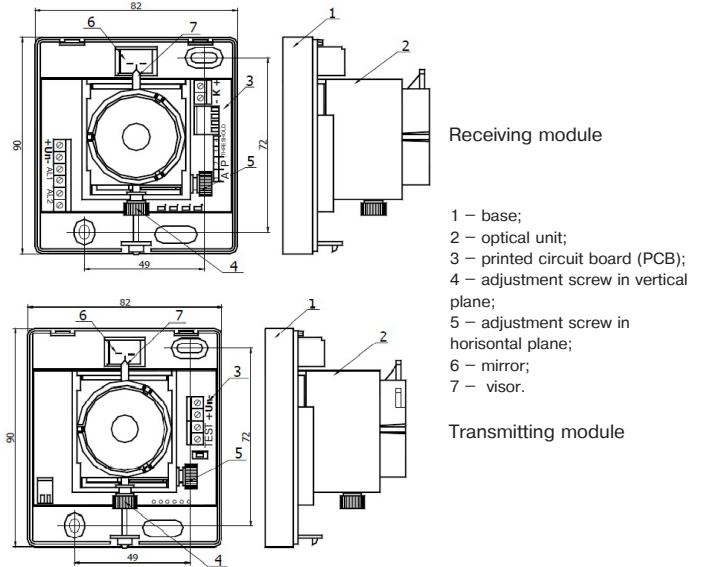

Figure 1
5.1 The principal structural elements of the transmitting module (TM) and the receiving module (RM) (See Figure 1) are as follows: 1 – base with a positioner mirror; 2 – case; 3 – optical unit with an adjuster; cover with a light filter (not shown).